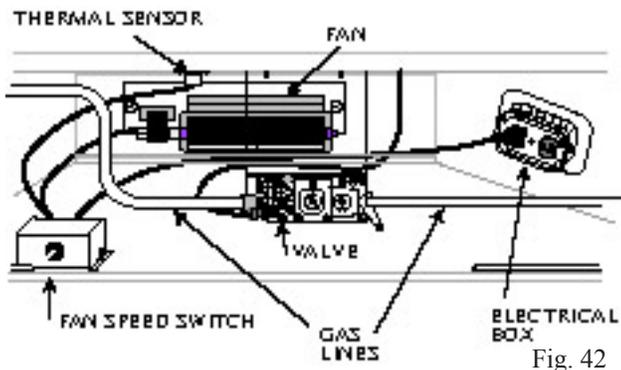

Fig. 42
- 3 Locate the fan speed control unit. This can be fitted behind the lower louvre assembly as in Fig. 42 or located remotely in a conveniently located wall mounted electrical box. Remote location of the speed control will require suitable extension of the component wiring.